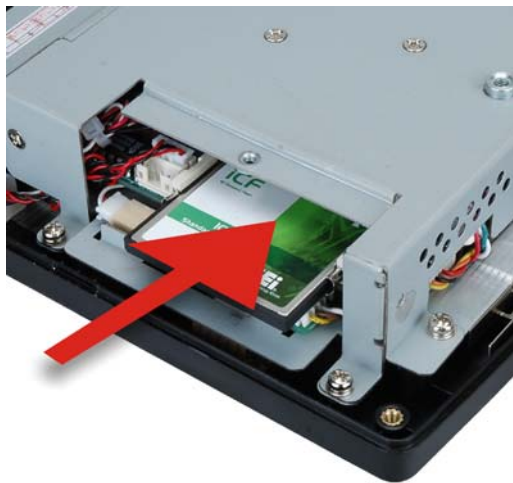

Figure 2-3: CF Card Location
Step 2: Insert a CF card into the slot (Figure 2-3).